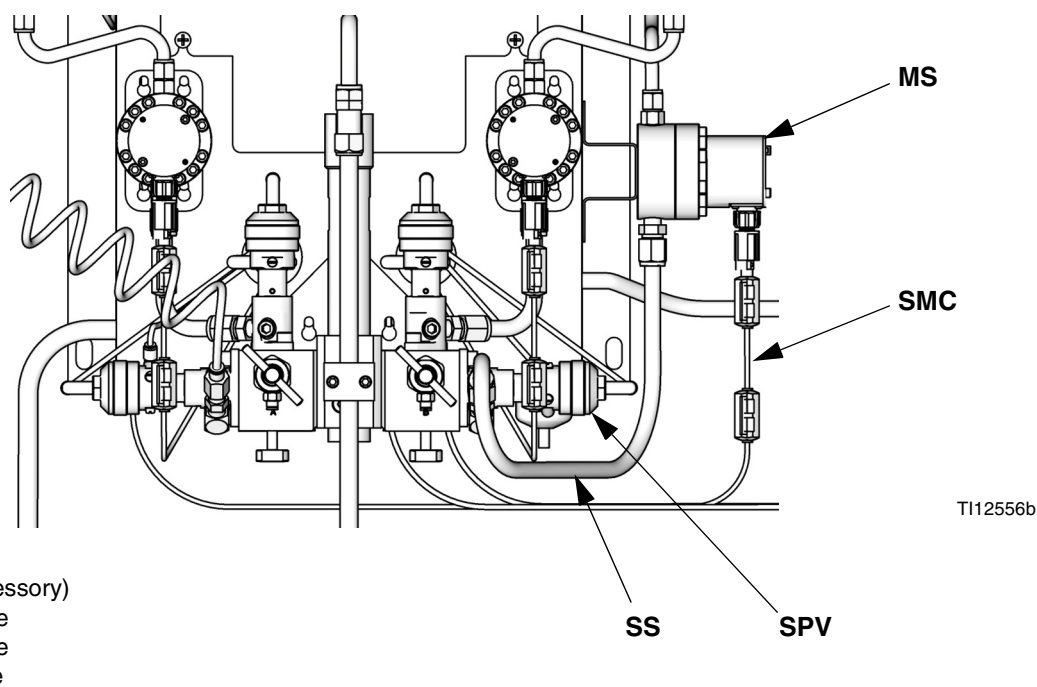

FIG. 11. Solvent Meter
1. See FIG. 11. Install the solvent meter (MS) on the side of the fluid station, using the bracket and hardware provided with the meter. Connect the solvent meter cable (SMC) to Pins 1, 2, and 3 of J12 on the fluid panel control board. See the **System Electrical Schematic** on page 31. Connect the cable ground wire to the fluid station ground terminal.
2. Connect a solvent supply line (SS) from the outlet of the solvent meter (MS) to the inlet of the solvent purge valve (SPV).